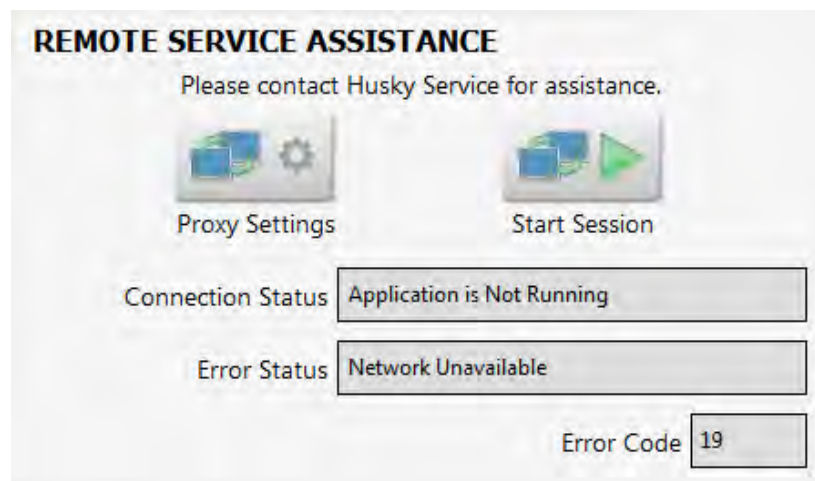

Figure 10-9 Remote Service Assistance
2. Touch the **Start Session** button in the Remote Service Assistance area of the screen. Refer to Figure 10-9.